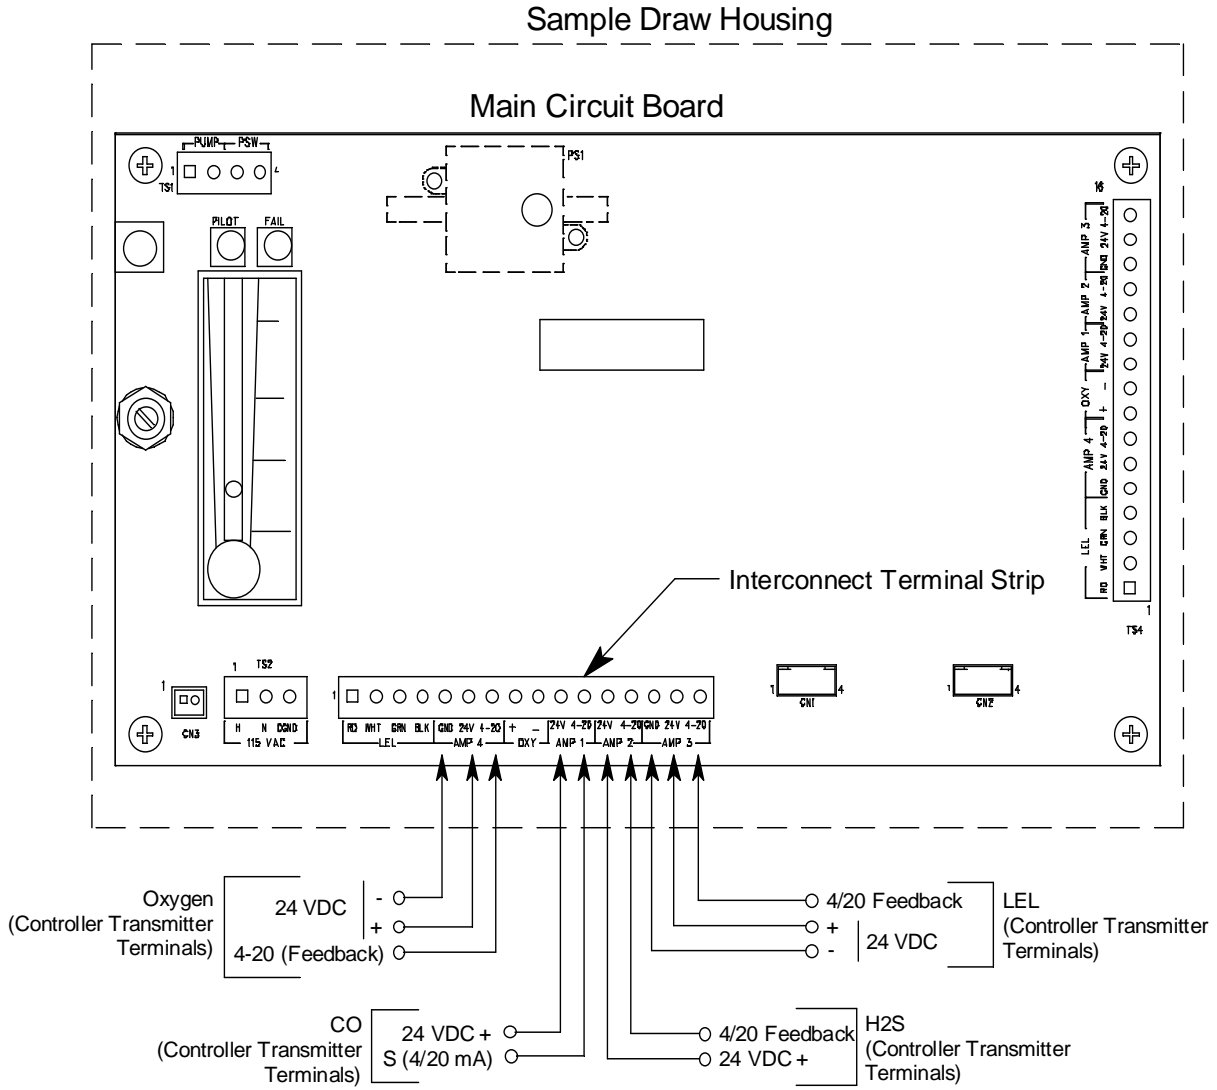

Figure 7: External (Field) Wiring, Sample-Draw Detector
5. Connect the cable to the sample-draw detector's interconnect terminal strip as shown in Figure 7.